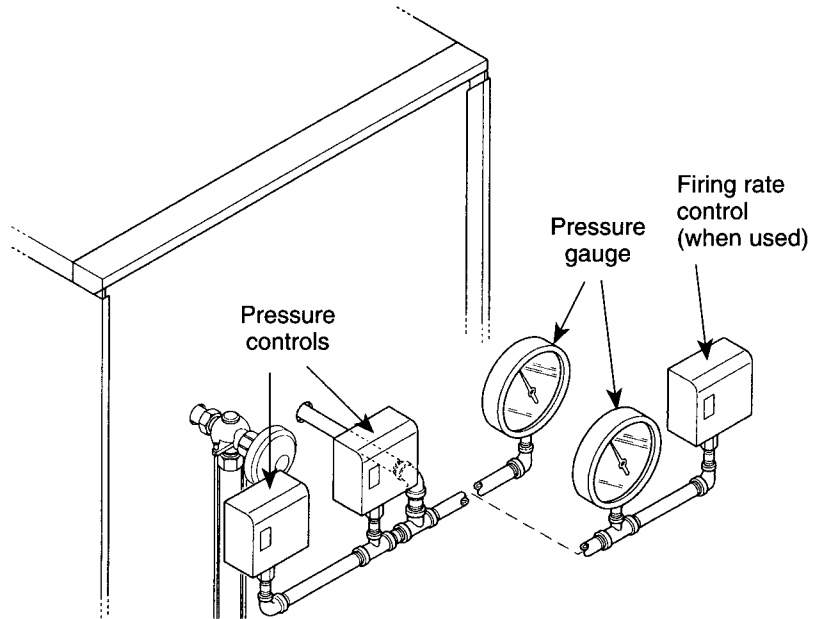

Figure 23 Steam Control Siphon and Fittings
- a. Install steam pressure operating and high limit controls and pressure gauge. See Figure 23. Pressure limit control settings: